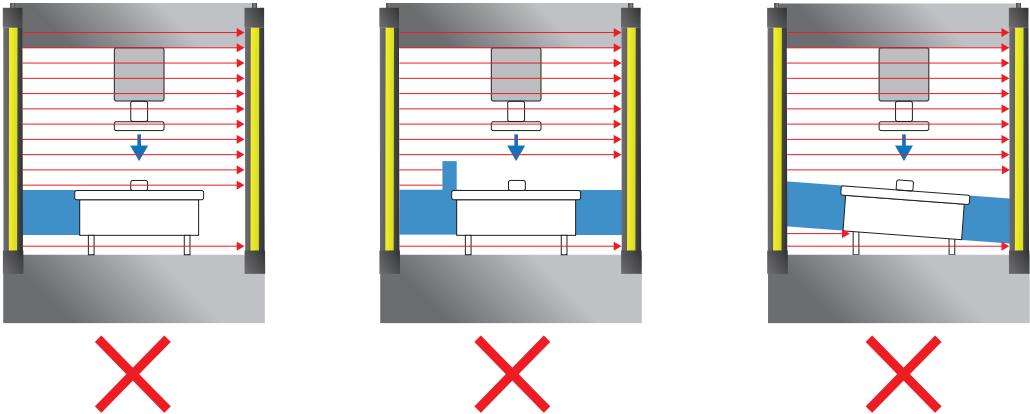

Figure 22: Prevention of shadow formation
- A mechanical construction must be installed to ensure that "shadowing" is not possible (see Figure 22).